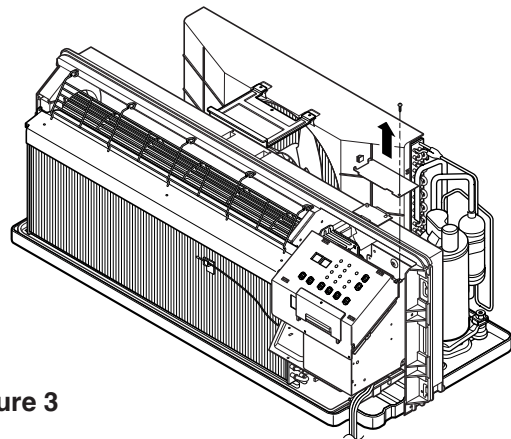

Figure 3
4. Remove the control box cover. (See Figure 3)